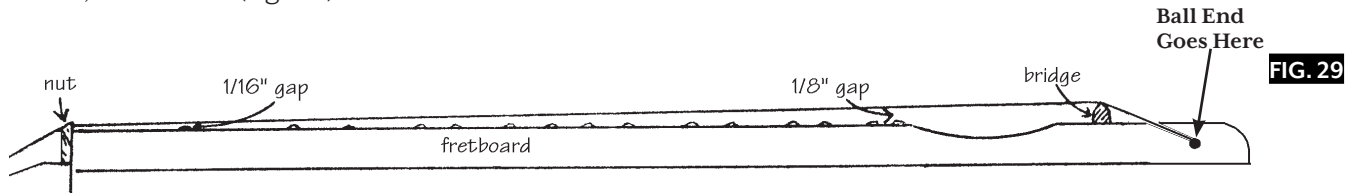

FIG. 29
- \_\_\_29. Now you can install the strings! Attach each string to the dulcimer by slipping the ball end into the hole near the tail end of the fretboard, and poking it in to about the proper depth to line up with the notches of the bridge. (fig. 29)